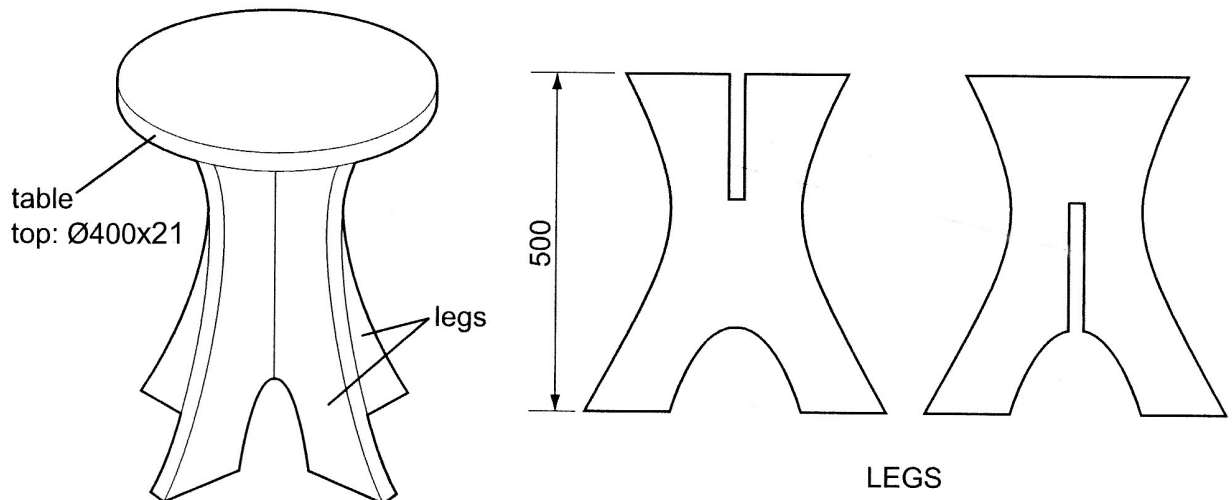

Fig.1
- 1 Fig. 1 shows views of a self-assembly table made from manufactured board.